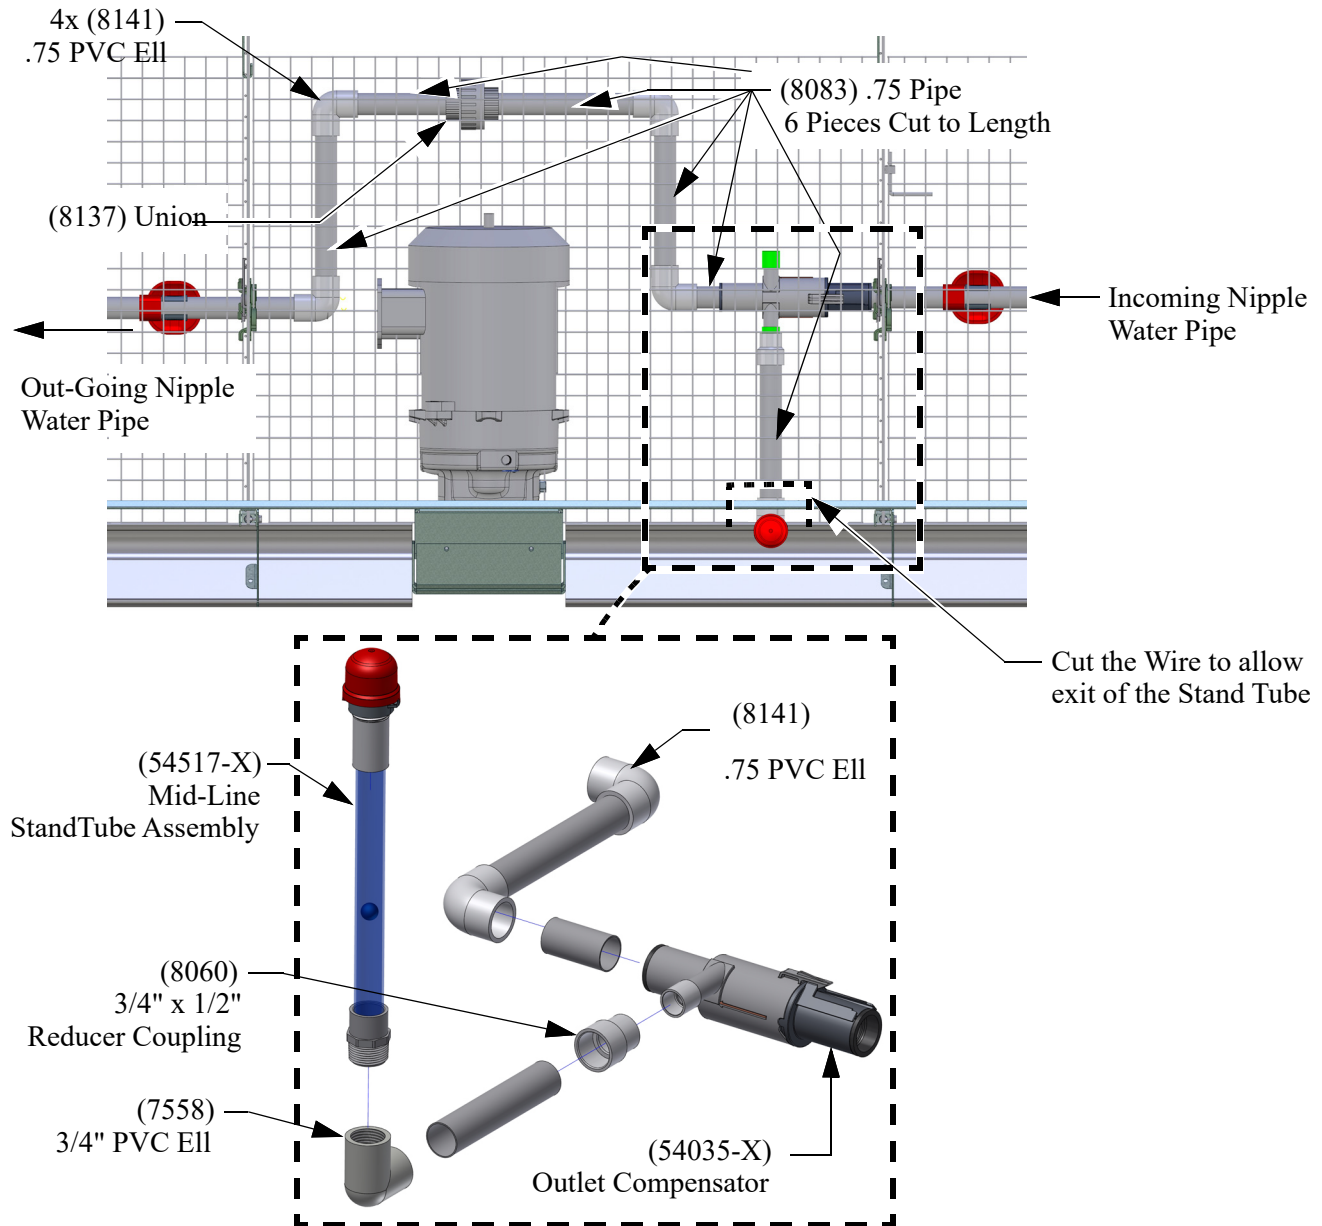

Figure 21. Motor By-Pass
3. Attach an outlet compensator with a right vent, left vent, or no vent, according to which side and tier is being installed (right 54035-4L, left 54035-5L, top 54035-2L) to the outgoing PVC pipe as shown in **(Figure 21.)**.
6. Attach a .75 union PVC sxs connector (8137) to the PVC pipes as shown in **(Figure 21.)**.